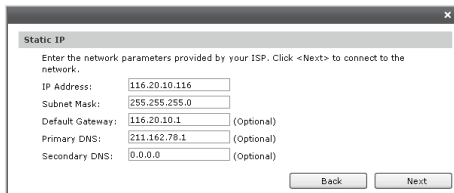

Figure 5-11 WAN Connection Type - Static IP
3)If you choose Static IP, you should enter the detailed IP information provided by your ISP in Figure 5-11.